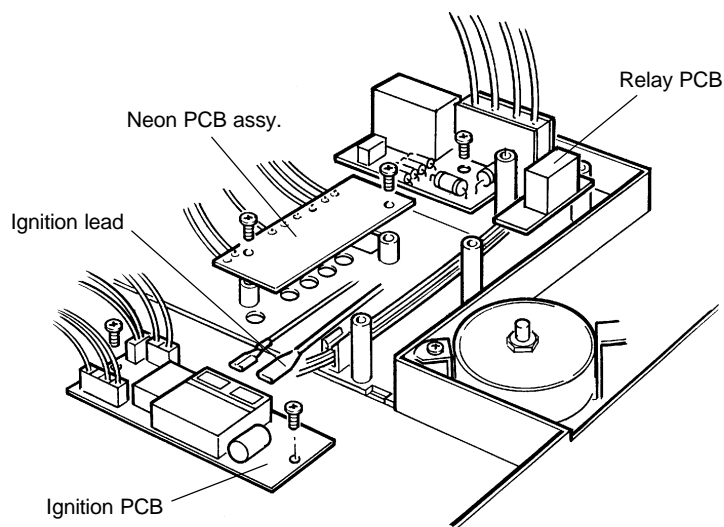

Fig. 28 - Alpha 240P and 280P
8.22 IGNITION PCB (Alpha 240P and 280P only) - Refer to Fig. 28
3. Refer to Fig. 28, connect the wiring to the new PCB and re-assemble in reverse order.
8.23 NEON ASSEMBLY (Alpha 240P and 280P only) - Refer to Fig. 28